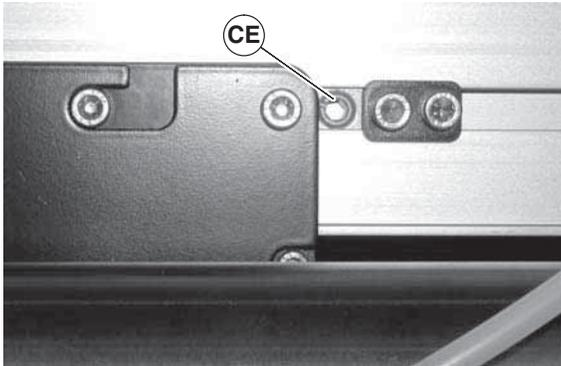

Figure 52
- Rotate the tracking cam (Figure 52, item CE) in small increments, each time inspecting the belt as it exits the center drive. Continue to rotate the tracking cam until conveyor belt is tracking normally.